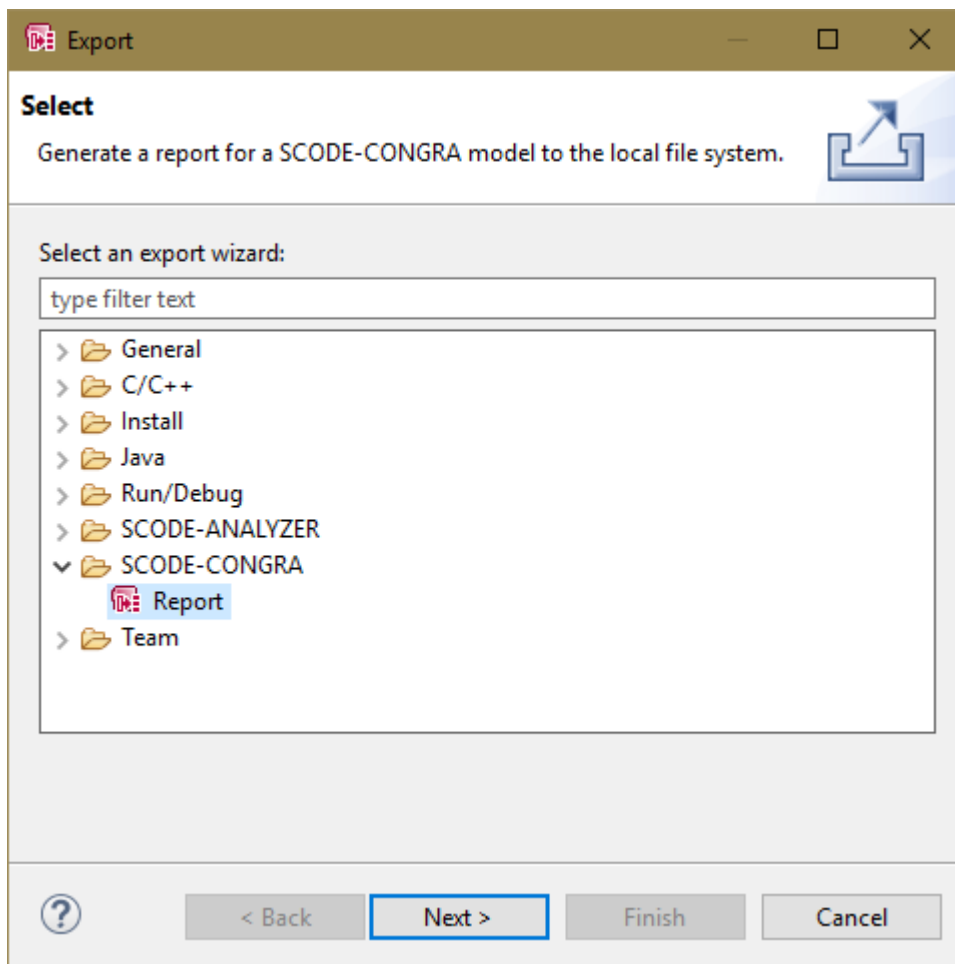

Figure 77. "Export" window with selected SCODE-CONGRA report generation
2. In the list of the "Export" window, select report generation for SCODE-CONGRA (see Figure 77).